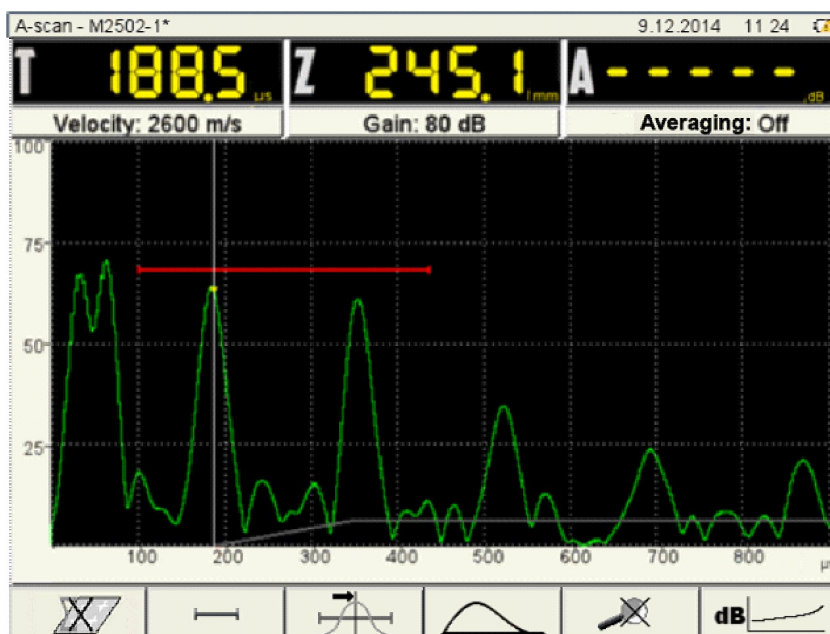

Figure 12: Pulled amplitude
- An examples screen with a switched on TGC curve is shown in Figure 12.